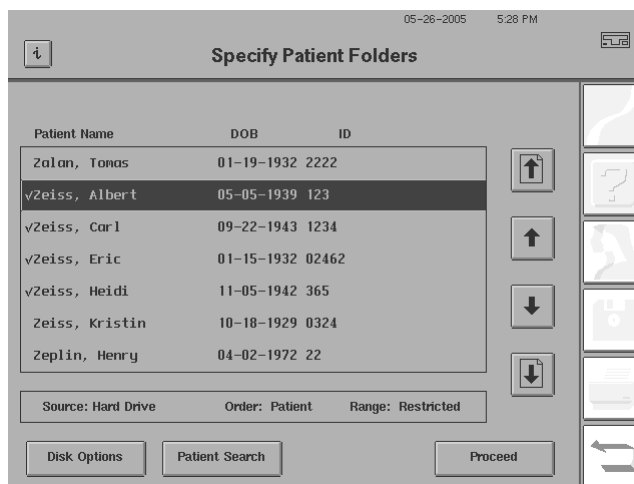

Figure 14.31 Selecting a Patient
- 5 Press ENTER on the keyboard. A Patient Selection screen (Figure 14.31) will open to allow you to see the complete list of files that satisfied your search criteria. If you limited the search by name, the list will be in ascending alphabetical order. If you limited the search by Date of Birth, the list will be in ascending numerical order.